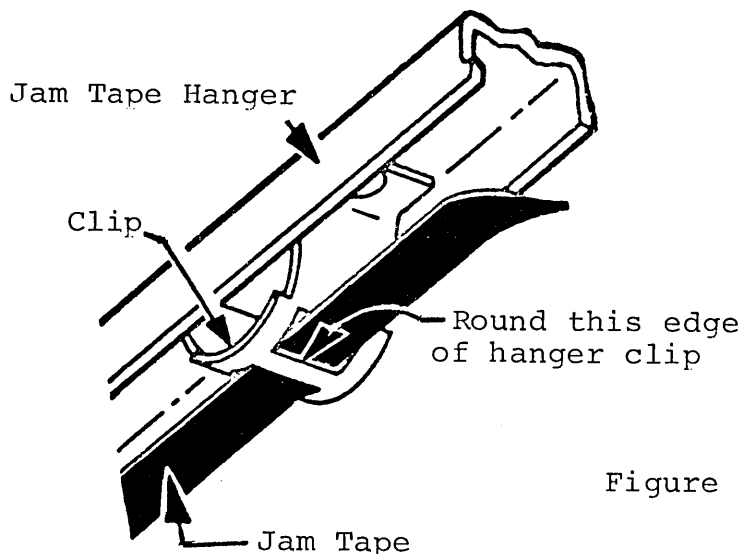

Figure 4
1. Jam tape support clips must be perfectly smooth with no trace of a square edge in the slot. With the jam bar assembly moved toward the left or right end, the clips can be stoned smooth. See Figure 4.